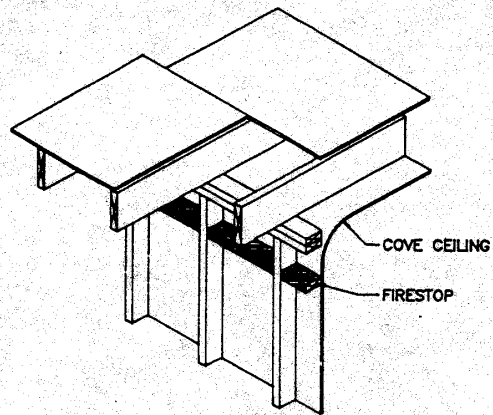
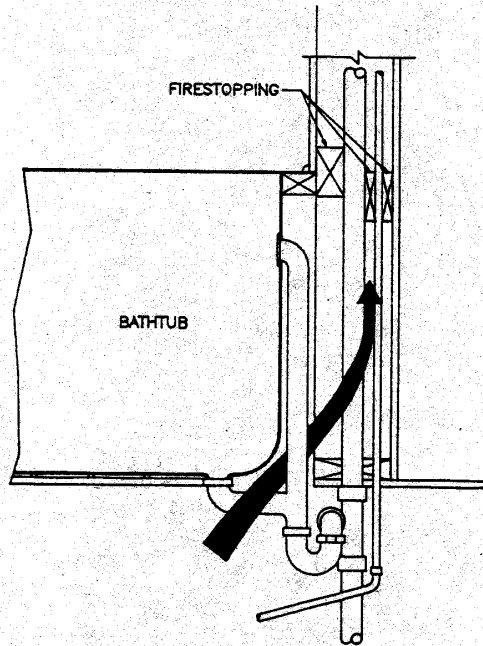

**FIGURE 602.7c
**FIGURE 602.7d
2. At all interconnections between concealed vertical and horizontal spaces such as soffits (Figure 602.7c), dropped ceilings (Figure 602.7d) and cove ceilings (Figure 602.7e). Interconnections such as shown in Figure 602.7f for a bathtub installation must also be firestopped.